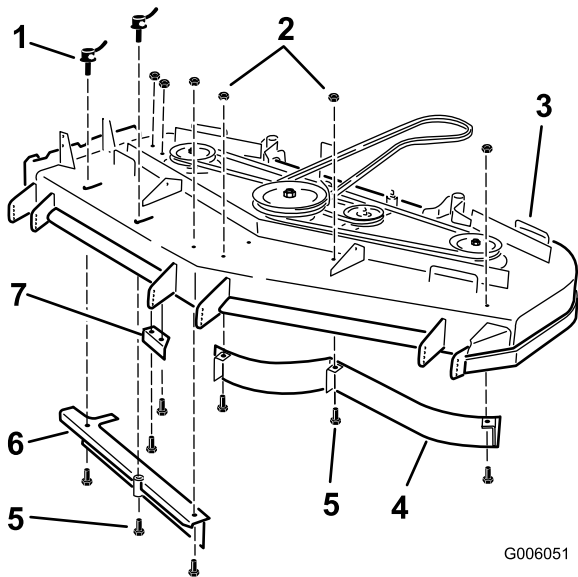

Figure 4
- Remove the 6 flange nuts holding the baffles in place (Figure 4).
- Remove the cam lock and washer by unscrewing it from the adjustable flow baffle (Figure 4).
- Remove the six bolts holding the baffles in place (Figure 4).